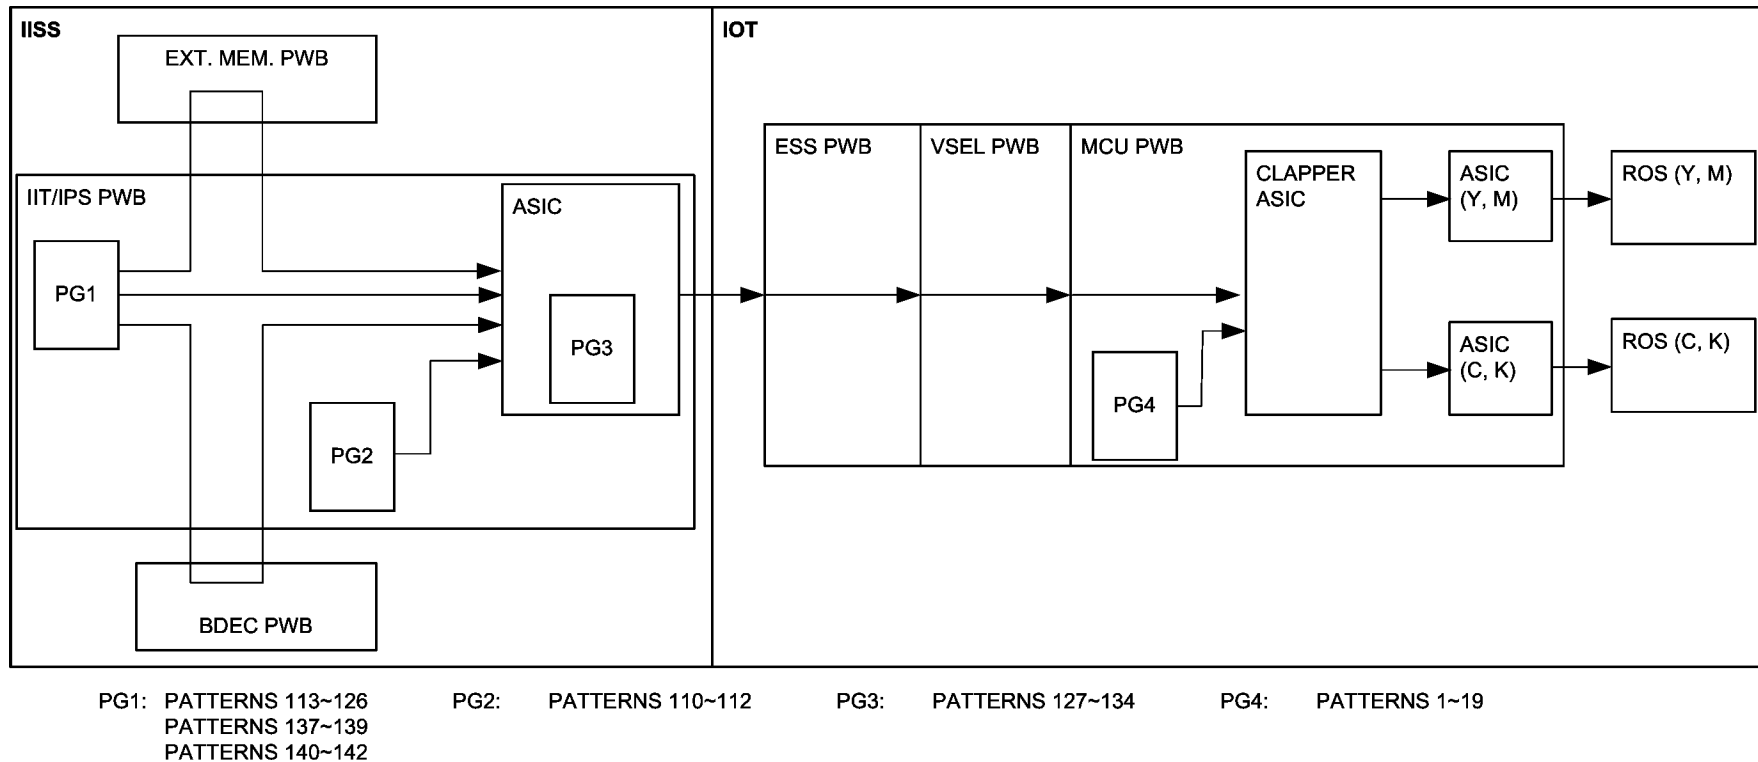

Figure 1 Test Pattern Signal Flow
3. Select the **Pattern** from the menu. Figure 1 shows the test pattern signal path